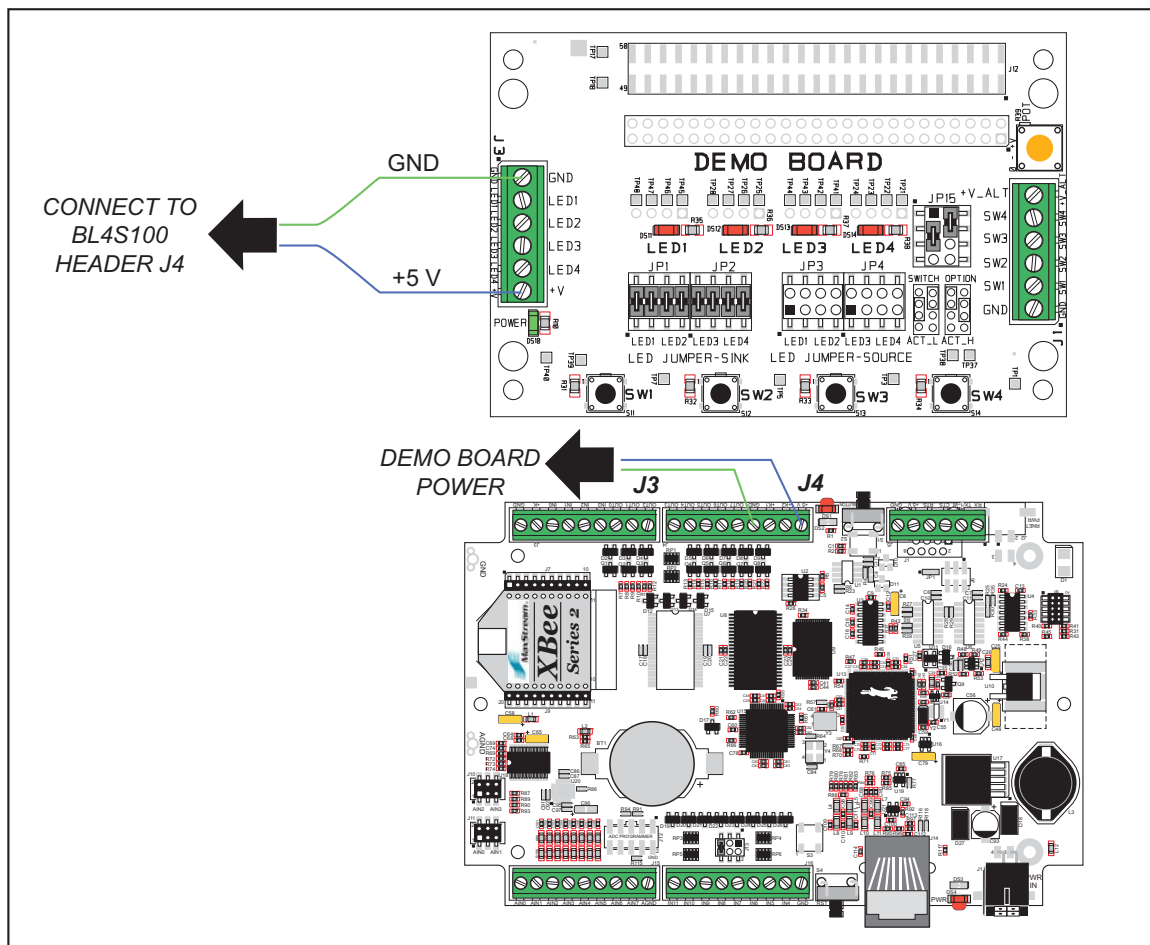

Figure C-1. Power Supply Connections Between BL4S10 and Demonstration Board
1. Use wires to connect screw-terminal header J3 on the Demonstration Board to header J4 on the BL4S100. The connections are shown in Figure C-1, with the green wire to GND and the blue wire to +V.